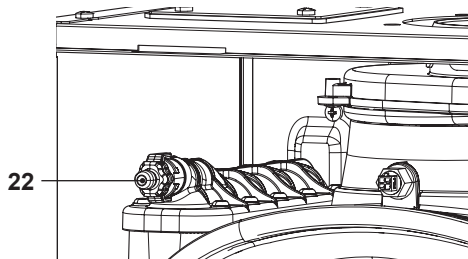

Fig. 7.3
- Before slackening the main condensing breather pipe exchanger 22 in Fig. 7.3 connect a small draining pipe to the hose nozzle to drain water out.